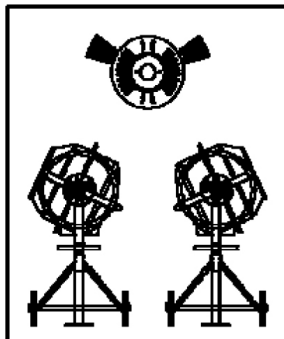

Fig.13
- Position the drum axis for loading concrete as shown in Fig.13.